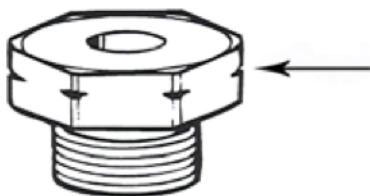

Figure 1
7. If you are disassembling a manifold, use a 3/4-inch wrench or deep socket to unscrew the plug (24). Lift off the gasket (25). Discard the gasket.
8. Remove the valve handle retainer (1) from the assembly with the modified screwdriver. Then remove the spring (2), handwheel (3), and washer (4).
CAUTION: If the bonnet (5) has notches on the corners of the wrench flats (see Figure 1), it is a left hand thread. Special care must be taken when removing or replacing this bonnet. Turn clockwise to loosen and counterclockwise to tighten.